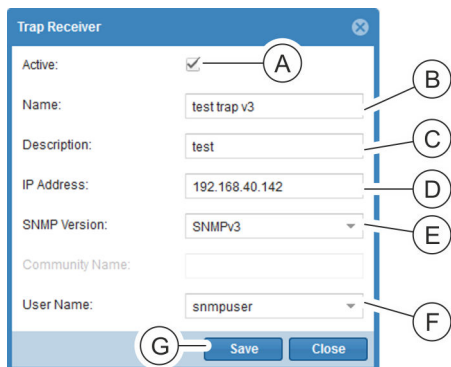

Fig. 141: “Trap Receiver” window
1. ➤ Configure the trap receiver as per Adding a receiver with SNMPv1/SNMPv2, steps 1 to 4 (Fig. 141/A – D).
2. ➤ In the selection field, select the SNMP version “SNMPv3” (Fig. 141/E).
3. ➤ Select a user name (Fig. 141/F).
4. ➤ After entering the data, exit the window by clicking the “Save” button (Fig. 141/G) to create the configuration on the PDU.